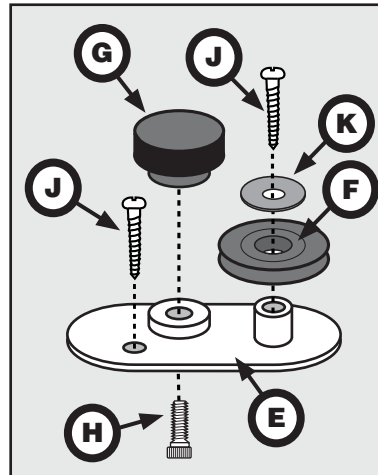

Figure 3
- 6** Assemble right rear wire connector as shown in **Figure 3** and fasten to board using 3/4" screws (**J**). Fasten screws securely. Rear pulleys (**F**) are designed to be tight fitting and do not spin freely.